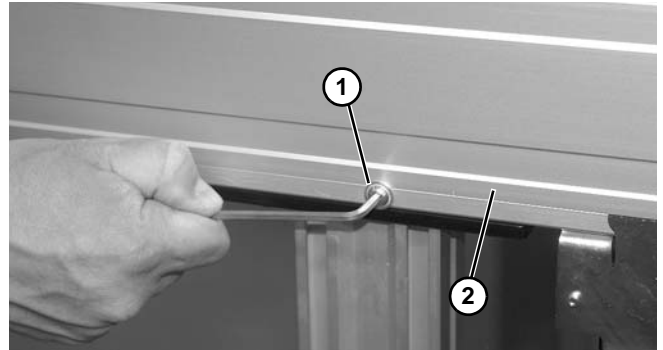

Figure 15
1. Remove screws (**Figure 15, item 1**) holding side cover (**Figure 15, item 2**) onto conveyor frame.